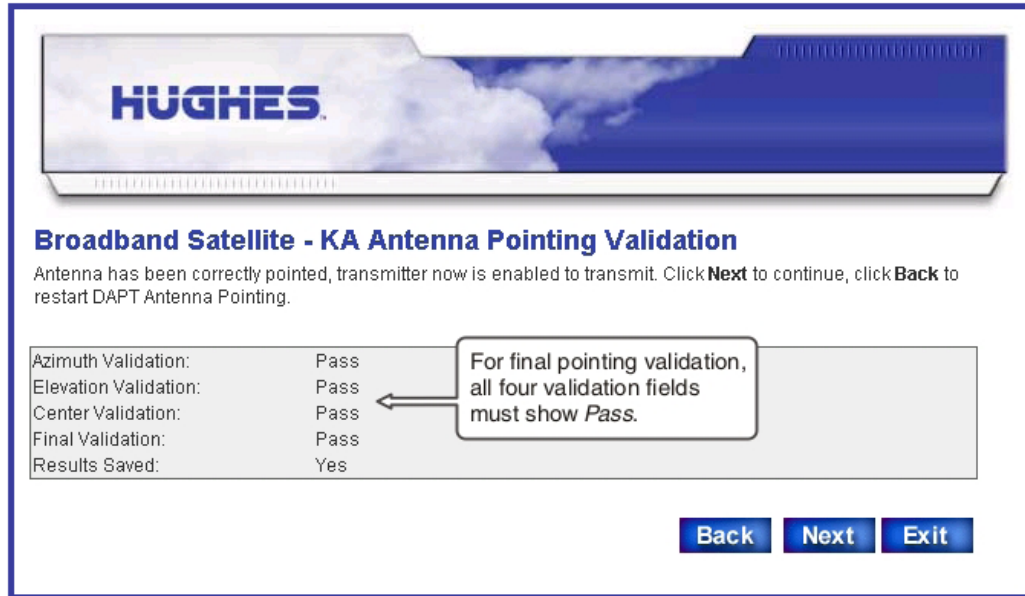

Figure 30: KA Antenna Pointing Validation screen – final validation passed
Pointing is validated when *all four* validation fields show **Pass**, as shown in *Figure 30: KA Antenna Pointing Validation screen – final validation passed* on page 40.
**Note:** The **Next** button shown in *Figure 30: KA Antenna Pointing Validation screen – final validation passed* on page 40 is present only if final validation is successful. If any test failed, only the **Back** and **Exit** buttons are present.